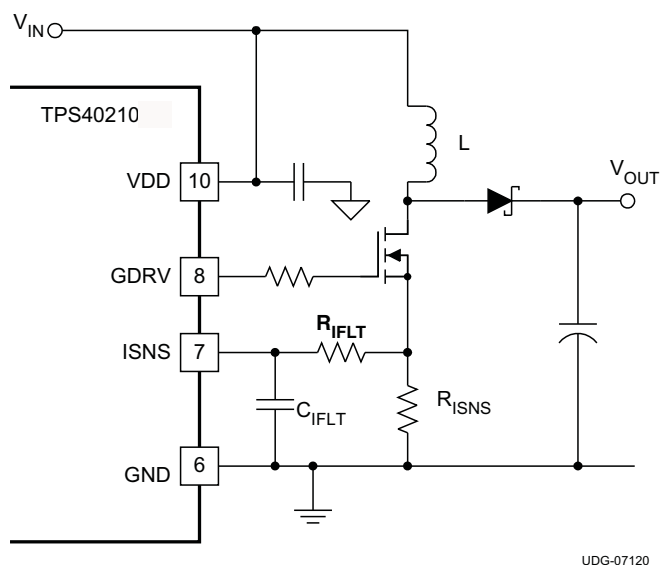

Figure 24. Current Sense Components
- V_D is the drop across the diode in Figure 24
It is possible to increase the voltage compensation ramp slope by connecting the VDD pin to the output voltage of the converter instead of the input voltage as shown in Figure 24. This can help in situations where the converter design calls for a large ripple current value in relation to the desired output current limit setting.
In most cases, a small filter placed on the ISNS pin improves performance of the converter. These are the components R_{IFLT} and C_{IFLT} in Figure 24. The time constant of this filter should be approximately 10% of the nominal pulse width of the converter. The pulse width can be found using Equation 11.